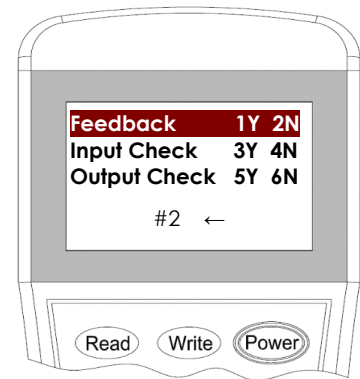

Figure 12: Page 2 for Second address
5. For the 2nd address, press **“0/Page”** to go to page 2 (Figure 12). Then complete with similar procedures above.